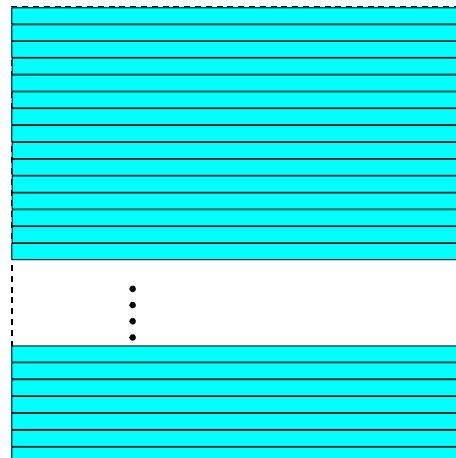

Fig. 97: Decimation Disabled
- 1: the complete frame will be transmitted out of the camera (no sub-sampling is realized); see Figure 97.